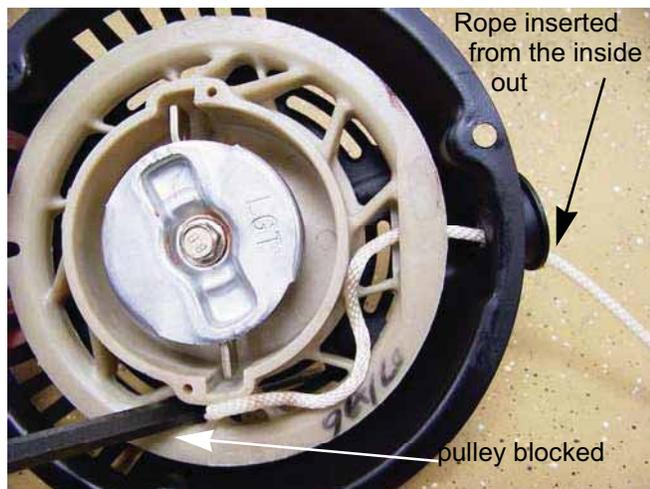

Figure 6.4
5. The rope may be easily installed from the outside-in. Pull the rope tight to seat the knot firmly in the recess in the back of the pulley. See Figure 6.4.
**NOTE:** It may be necessary to wind the pulley clockwise to line up the hole in the pulley to the hole in the starter housing. If so, use a punch or screwdriver to block the pulley, preventing it from rewinding. See Figure 6.4.